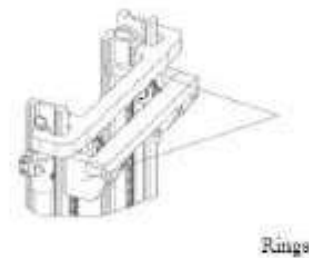

Figure 2-55
(1) Lifting description of the lifting system as shown in Figure 2-55